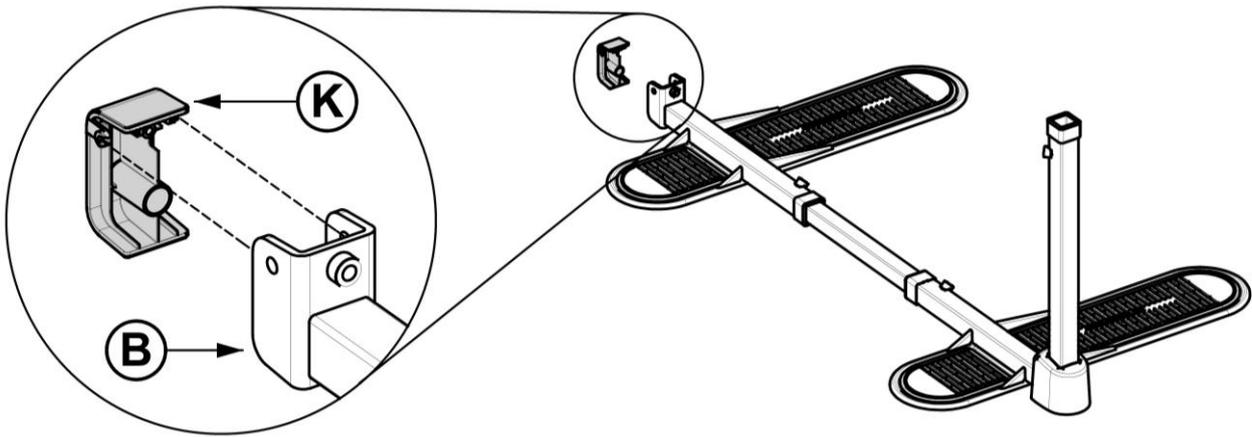

FIGURE 6
6. Attach Cap **K** to Base **B**, as shown in *FIGURE 6*.